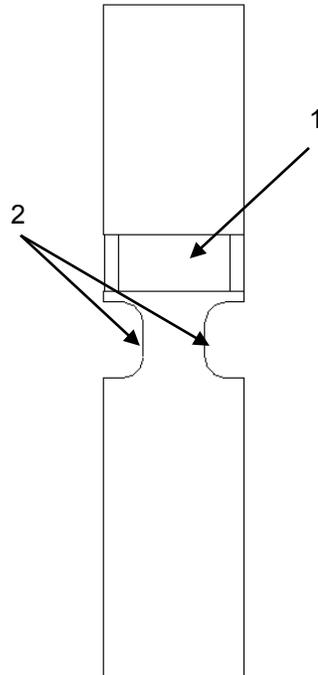

Figure 2. Storage Rack Adapter.
1. Place the storage rack adapter over the end of the M249 short barrel so that the single slot (Figure 2, Item 1) is positioned above the pair of grooves (Figure 2, Item 2).